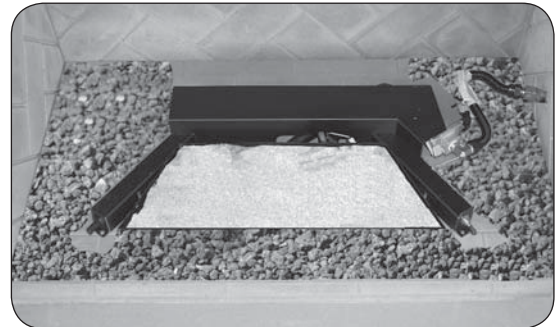

Fig. 20-3 Place sand/vermiculite
1. Fill the burner pan completely with the sand/vermiculite (see Fig. 20-3). **Avoid spilling the sand/vermiculite on the pilot assembly. DO NOT place sand/vermiculite on any other parts of the burner / heat shield.**